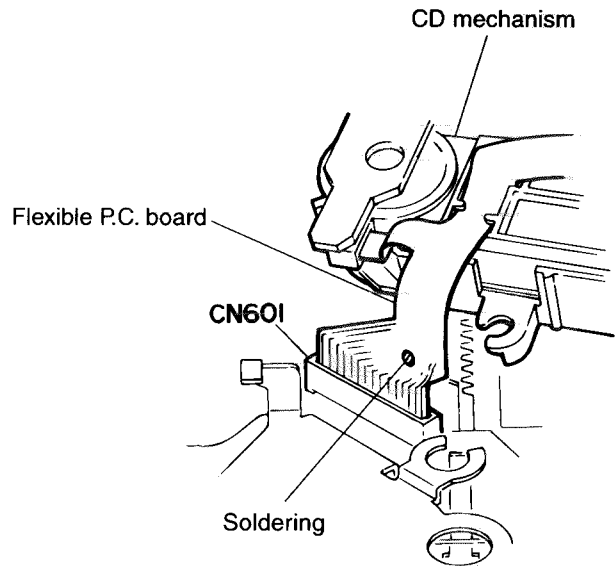

Fig. 13
10. Solder the flexible P.C. board outgoing from the CD mechanism as shown in Fig. 13.